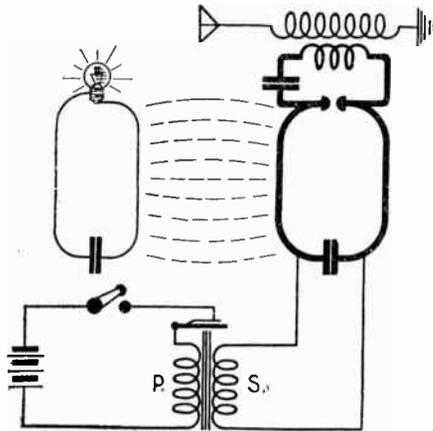
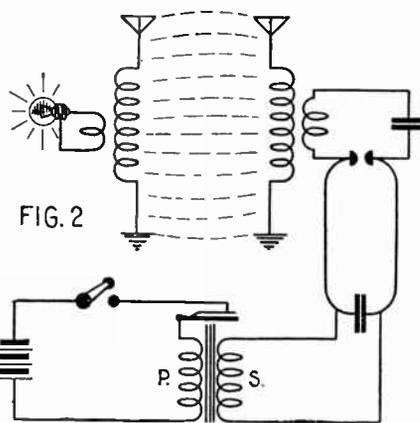

FIG. 1
FIG. 2
For example, there is the special oscillator connection of Figs. 1 and 2. You will notice that two different waves entirely are being emitted, viz., electromagnetic and electrostatic. In Fig. 1 the electromagnetic is shown operating a lamp, and in Fig. 2 the electro-static.
Fig. 1 shows the general layout of this rather startling experiment, the skull grimly opening and shutting its jaws and performing the other motions as described. Further details are given in Figs. 2 and 3, the whole thing constituting an interesting if somewhat ghastly display. The motor revolving a disc, operates the circuit breaker, affecting the magnet periodically. A relay is employed to give good actuating current.
The general principles upon which this trick works are as follows: A sensitive microphone (A), Fig. 1, of the carbon ball type, is connected in circuit with a relay (B), see also Fig. 2 (D), and its armature circuit is linked with a motor (C) and battery. Upon the motor shaft a proper circuit breaker is placed and the latter is connected in series with a powerful electromagnet (D), actuating an iron armature (E), which is connected to a rod (F), operating lever (G), which is fastened to the (balanced) lower jaw of the skull, as perceived. Now, when you speak or produce any sounds near the instrument, the microphone will be disturbed, operating the relay, which will connect and work the motor, and in turn the circuit breaker. Consequently the electromagnet (D) is put in operation and the result is that the jaw is pulled up by the action of the rod (F) actuated by the magnet. When the current is released the slightly overbalanced weight of the jaw will cause it to drop back. The arrangement herewith shown will only cause a double rap of the jaw, but the number of them may be varied by increasing the
The constructional details of the individual apparatus are shown in Fig. 2. The electromagnet (A) is made to size, as perceived, and is fully wound with No. 22 B. & S. copper magnet wire. The circuit breaker (B) consists of a disc revolved by a motor and which makes contact with a brass strip located at the bottom of the base, as depicted. The relay (C) is made of two bell magnets actuating an iron armature carrying a contact point which contacts upon a second point, as seen. Connections for the various parts are shown in drawing (D). Practically any kind of relay can be advantageously used. The transmitter is of the supersensitive type and which can readily be made by following the instructions given in the November, 1915, issue of this journal on page 333 in an article entitled "How to Build a Dictaphone." After these various instruments are made they should be properly arranged as portrayed in Fig. 1 and connected as shown in (D), Fig. 2. The instrument is now finished and ready to be used. The only thing necessary to operate the jaw of the skull is to talk or blow a whistle, which will affect the transmitter and in turn the jaw, thereby caus-